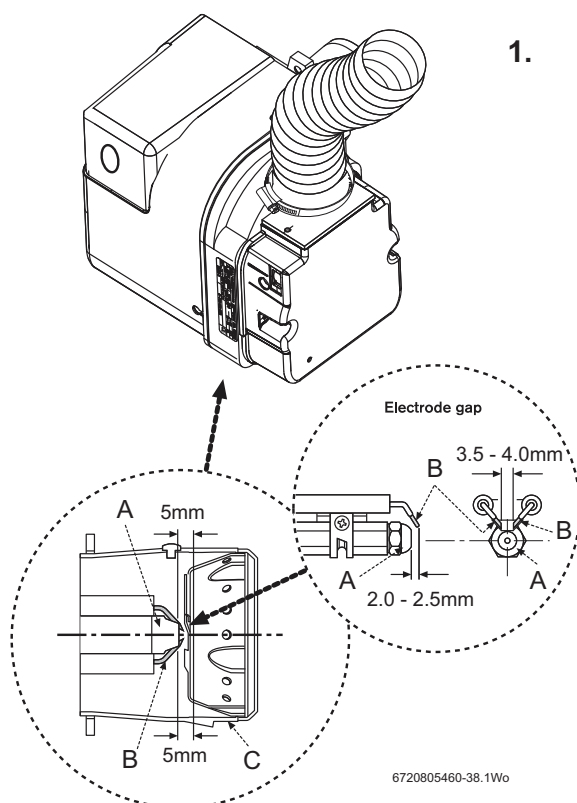
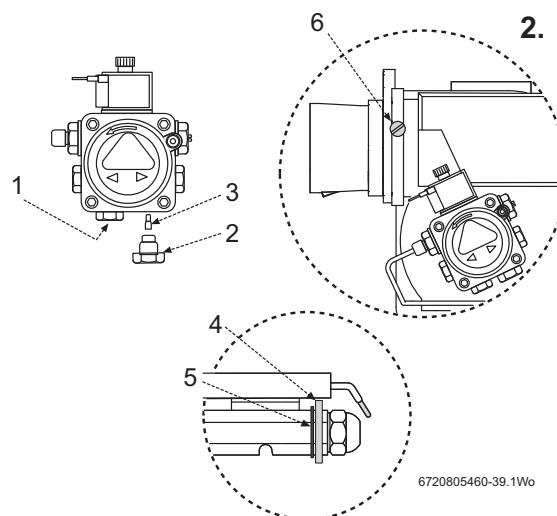

Fig. 49 Nozzle and electrode alignment
Fig. 50
1. Check that the nozzle (A) and the electrode (B) alignment settings are correct as shown in figure 49.
- Ensure that the nozzle (A) is aligned centrally within the combustion head (C).
- Before removing or fitting a nozzle (A), loosen screw (6 figure 50) and move the electrodes (B) forward. After refitting check that the electrode gaps are correct, as shown in figure 49.